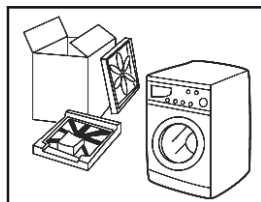

Fig. 1.
- Remove all the packing materials (including the foam base) to prevent vibration during use, as shown in Fig. 1.